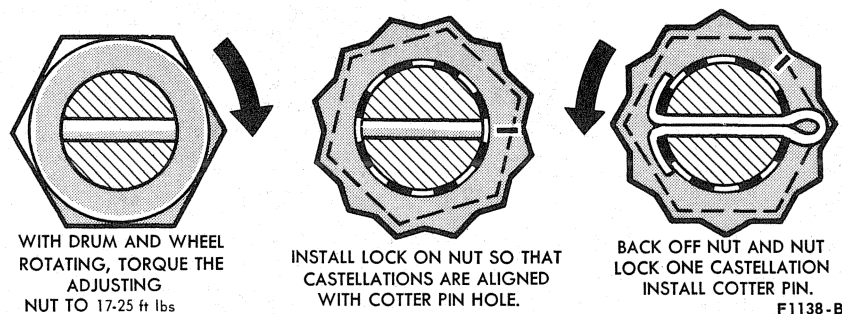

FIG. 3—Front Wheel Bearing Adjustment—Econoline
4. While rotating the wheel, hub, and drum assembly, torque the adjusting nut to 15-20 ft-lbs to seat the bearings (Fig. 3).